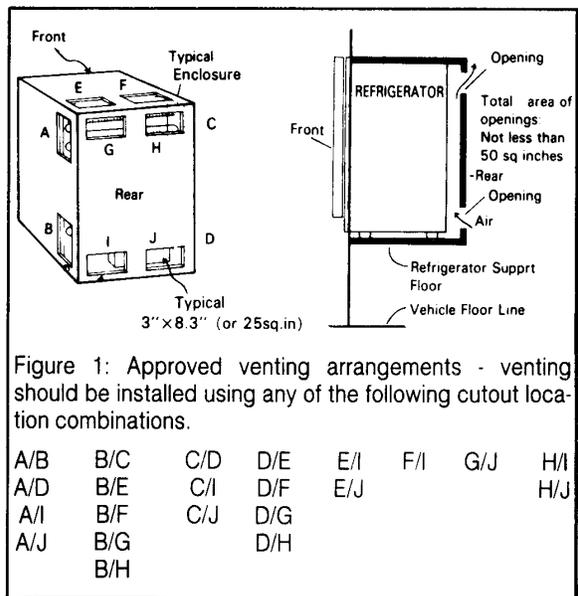

Figure 1: Approved venting arrangements - venting should be installed using any of the following cutout location combinations.
**VENTILATION:** For refrigerators with 40 watt or 60 watt power supplies, vent opening combinations should equal a minimum air flow of 50 square inches of intake air and 50 square inches of exhaust air. The model with the 80 watt power supply (DE-828) requires 100 square inches of intake air and 100 square inches of exhaust air. The more air circulating over the condenser the more efficient the refrigerator will operate. Failure to provide the necessary ventilation will result in poor refrigeration, continuous compressor operation and accelerated battery discharge. (For proper venting arrangements refer to Figure 1.)